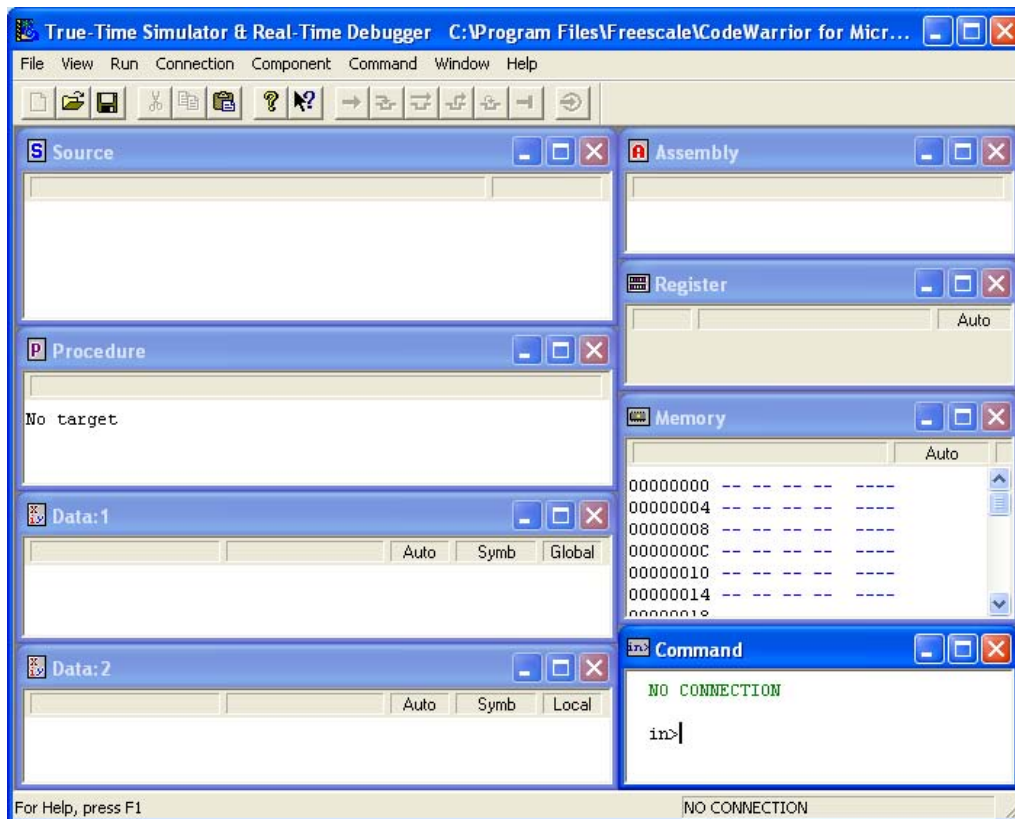

Figure 6. True-Time Simulator and Real-Time Debugger
2. Double-click on the file hiwave.exe., this will initiate the True-Time Simulator & Real-Time Debugger as shown in Figure 6. If the Connection Manager window (Figure 3 on page 4) appears, click Abort.
6. Click on Open. In the next prompt window, click Yes (Figure 4 on page 4). A window will display information about the programming process. Once complete, the window shown in Figure 6 will remain. The bootloader is now programmed into the flash memory of the microprocessor on the sensor toolbox board. Disconnect the PE Micro device from sensor toolbox board and switch off and on the power prior to using the board with sensor toolbox PC software.